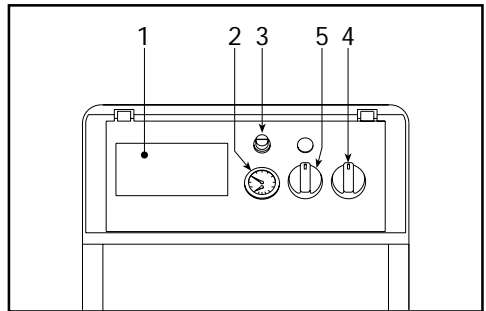

Fig. 1
#### Regulating thermostat, manual resetting 3 (fig. 1)
#### Central thermostat 5 (fig. 1)
- 3) Give electric power to the boiler and switch on the main switch 4 (fig. 1) on the boiler control panel.